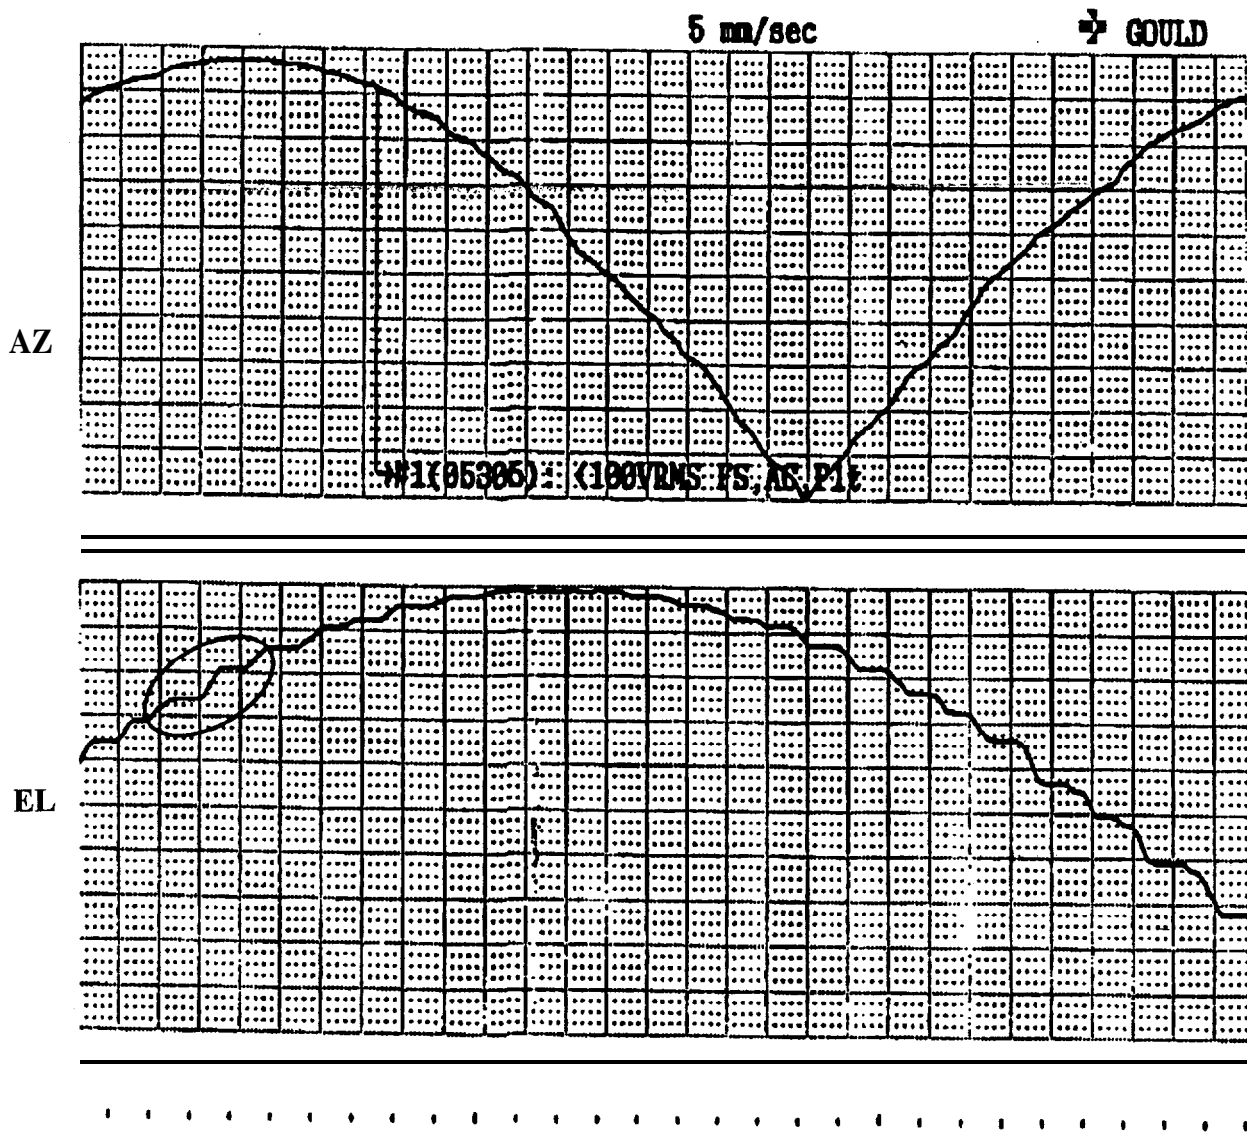

Figure 5-3 Elevation Servo Gain High
5.9 Elevation Servo Gain High - Figure 5-3 shows the effects of high elevation servo gain. Note the small sine wave pattern in the circled area of the trace. The sine wave pattern shows that during rapid radiosonde movement the antenna drove past the radiosonde in both directions, overshooting actual radiosonde position. The high elevation servo gain causes overshoot due to excessive antenna inertia developed from the high drive rates. Normally, the mechanical motion damping provided by tachometer feedback would control overshoot. In figure 5-3, elevation servo gain was high enough to overcome tachometer feedback, resulting in overshoot.